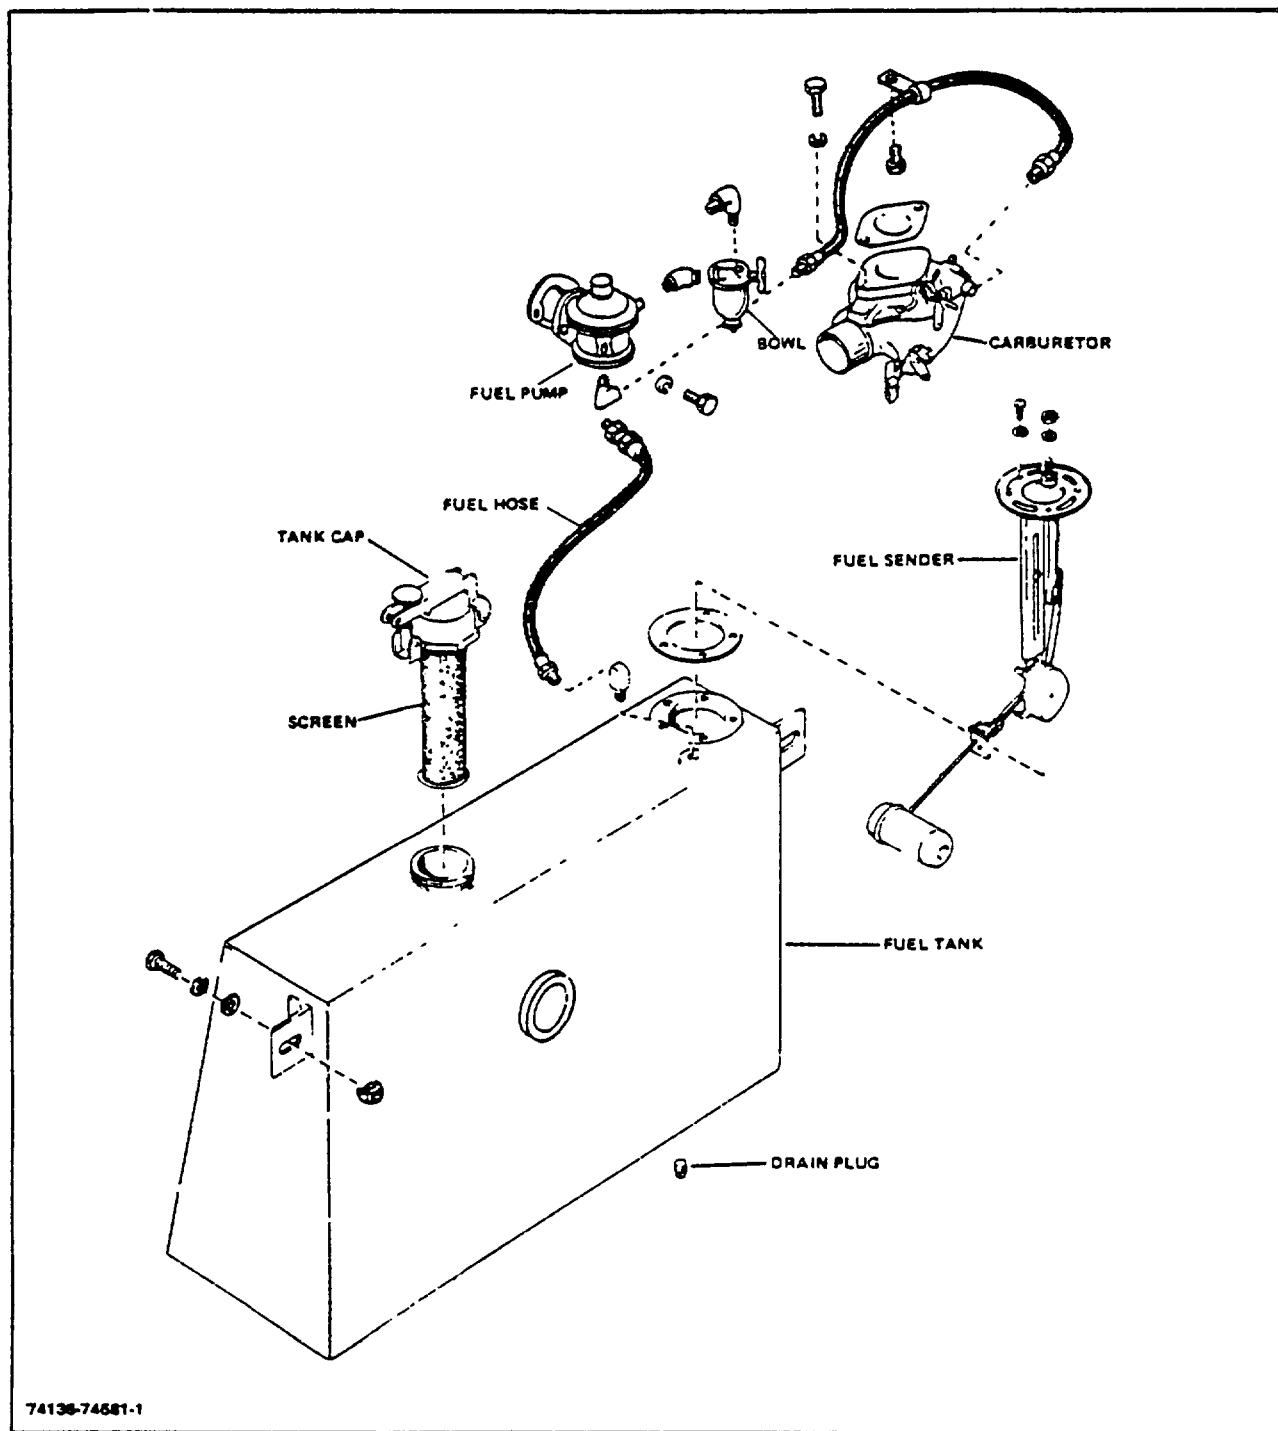

Figure 1-1. Fuel System (Type I)
4. Remove hose from top of tank and the fuel gauge sender wire (Fig. 1-1).
3. If removal of fuel sending unit is necessary, remove capscrews and lockwashers (Figure 1-1) that secure sending unit to tank. Carefully lift unit out of tank being certain not to bend float arm.
9. Replace previously removed fittings and hose (Fig. 1-1).